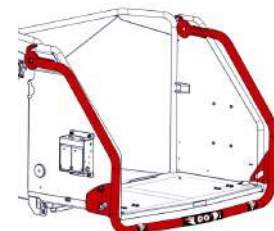

Figure 18 - Red Safety Bar
5. Press the Red Safety Bar (Figure 18).